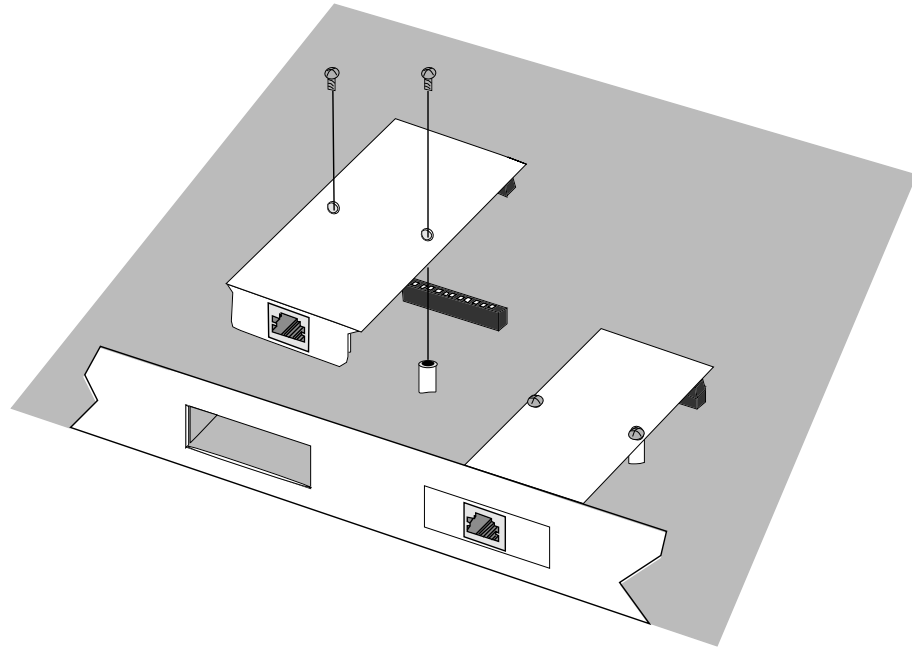

Figure 2-1. Installing an FPIM
3. Install the FPIM as shown in Figure 2-1. Ensure that the rear connector is seated firmly before tightening the two mounting screws.